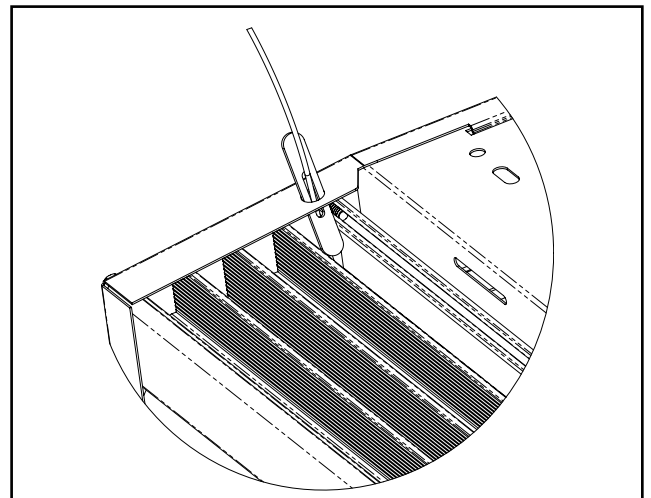

Figure 1.
2. Slip the toggle ends through the holes on the upper flanges of the end plate. (Figure 1.)